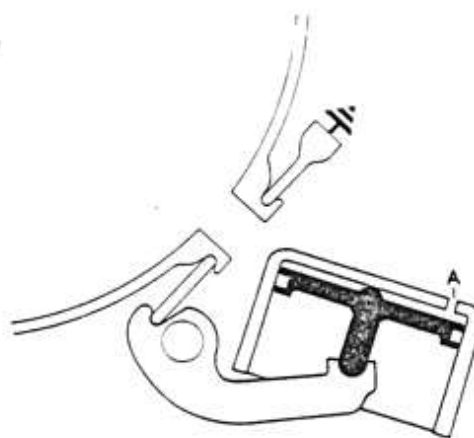

Fig. 16. Rear servo operation
P. Movement of the valve mechanically engages the parking pawl with the externally toothed ring gear on the driven shaft, effectively immobilising the vehicle. No fluid is directed to the front clutch or 2-3 shift valve for the rear clutch, therefore the gear set is disconnected from the converter and no engine power is transmitted to the rear wheels. Because of the arrangement of the manual control valve ports for other selector positions, line pressure (6) is directed to the rear servo (13).
R. Line pressure (6) is directed to the rear servo (13) entering at (A) as shown in Fig. 16 via the 1-2 shift valve and also (7) to the rear clutch (15) via the 2-3 shift valve. No pressure is directed to the governor.
N. The clutches and servos are not pressurized and are exhausted, because circuits 3 and 5 are open to a port (X) nearest to the manual valve collar. Therefore the gear set is disconnected from the converter and no engine power is transmitted to the rear wheels.
D. Line pressure (5) is directed to the front clutch, governor and 1-2 shift valve. Line pressure is directed also to the 2-3 shift valve (3).
L. Line pressure (5) is directed to the front clutch, governor and 1-2 shift valve, so that 2nd gear is available. No line pressure is directed to the 2-3 shift valve; therefore upshifts to 3rd gear cannot occur. When in 1st gear, line pressure (6) is directed to a differential area of the 1-2 shift valve to lock it in position, and hence to the rear servo (13).